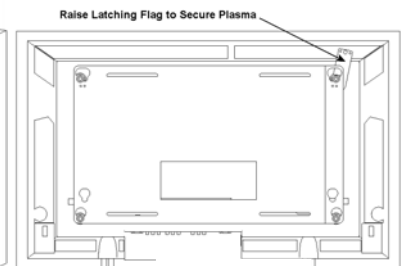

Figure 6
5. With the aid of another person, lift the display up to the mount, align the mounting buttons on the display with the teardrop slots in the mount, and set the display into place (see Figure 6).
6. Position (raise) the flags to secure the plasma (see Figure 6).